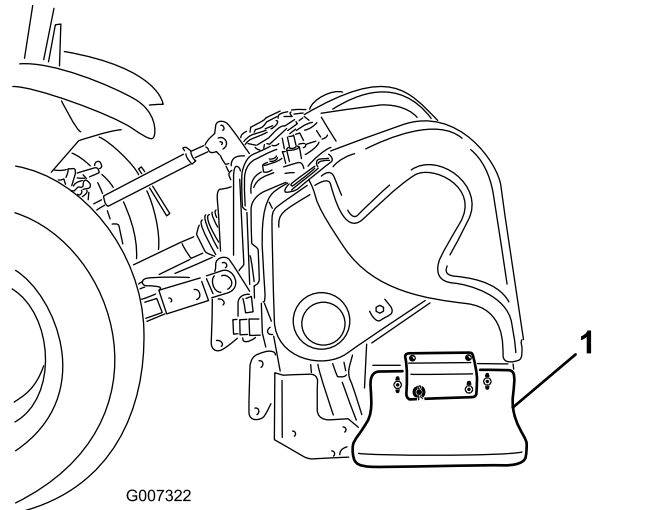

Figure 40
- Loosen the bolts and nuts securing the side shield to frame (Figure 40).